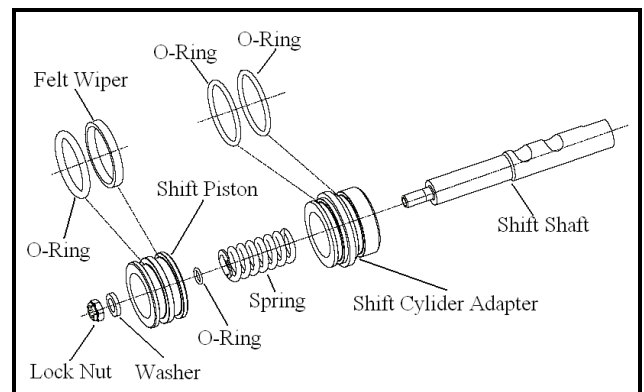

Figure 86
- Install a new piston-to-shaft O-ring over the threaded portion of the shaft. Slide the spring over the shaft. Place the nylon stop ring over the shaft and spring. Install a new piston O-ring in the outer groove in the piston. Soak the air shift piston felt strip in gear oil and install it in the inner groove. See **Figure 86**.